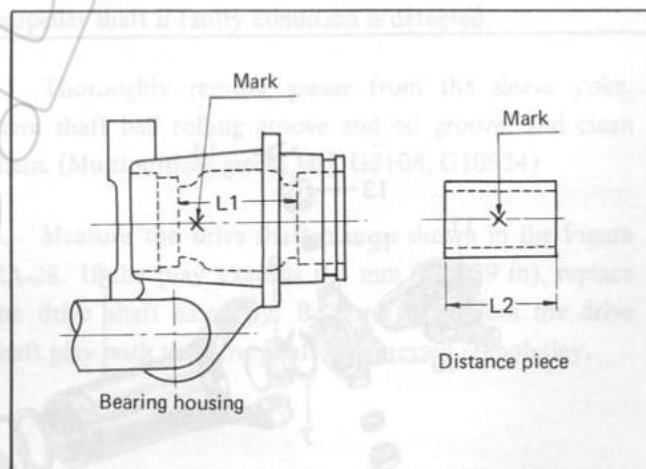

Fig. RA-24 The rear bearing housing and distance piece
2. Relationship between the rear bearing housing and distance piece is shown in Figure RA-24